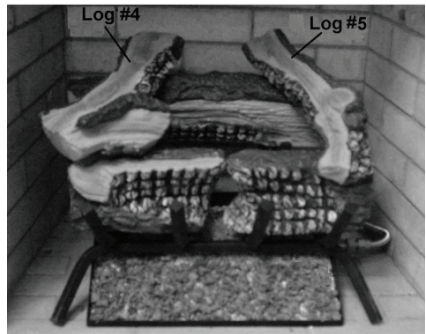

Figure 13 - Installing Top Logs #4 & #5
4. Place logs #4 and #5 onto logs #1, #2 and #3 by inserting locating pin on log #1 into lower hole of logs #4 and #5 (see Figure 13).